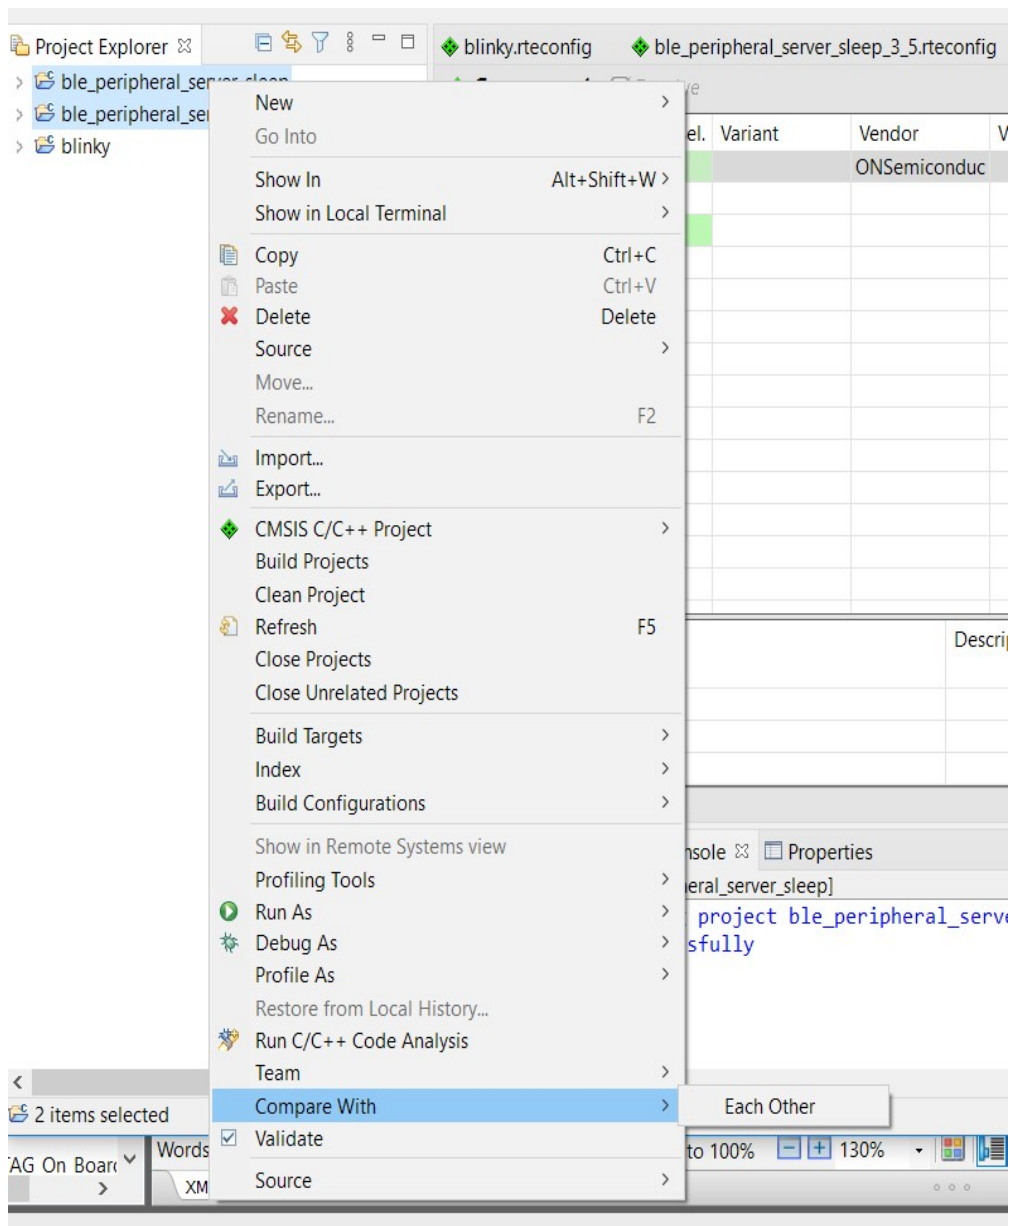

Figure 19. Comparing Your Sample Application to the Latest Version
- Compare your application to the latest sample from the CMSIS-Pack using the Eclipse **Compare With** feature, as shown in the figure "Comparing Your Sample Application to the Latest Version" (Figure 19), or with your preferred comparison tool.